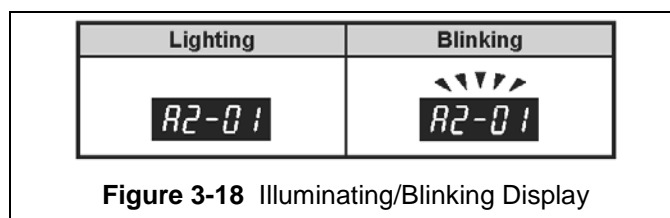

Figure 3-18 Illuminating/Blinking Display
3.8.9 During operation the data display will exhibit illuminating or blinking data as shown in **Figure 3-18**.